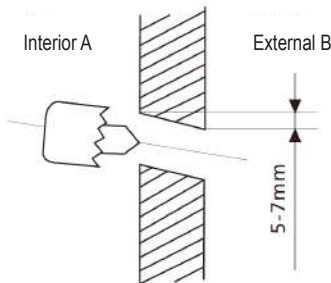

fig. 11 -
5. Drill a $\varnothing 65$ mm hole (or $\varnothing 90$ mm depending on the model) in the wall ("fig. 11 -"), slightly sloping downwards towards the outer part, starting to drill from one side of the wall (A) and ending with the opposite side (B) to prevent the actual wall from breaking.